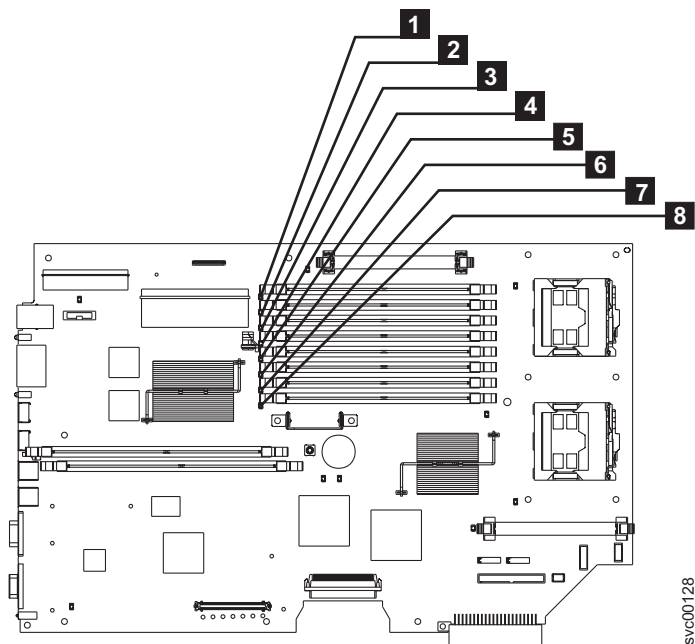

Figure 96. Locating the SAN Volume Controller 2145-8F2 or SAN Volume Controller 2145-8F4 memory modules
- SAN Volume Controller 2145-8F4 or SAN Volume Controller 2145-8F2: These modules are numbered **1** through **8**, as shown in Figure 96.